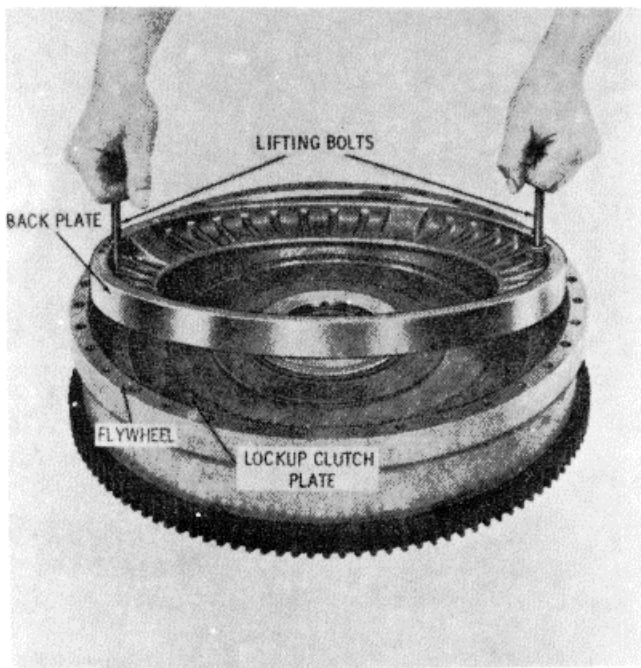

Figure 15-47. Removing Lockup Clutch Backplate
4. Remove the hook-type seal ring from the turbine shaft. Install two lifting bolts (Figure 15-47) into the lockup clutch backplate and remove the plate from the flywheel. If present, remove two anchor keys. Remove the lockup clutch plate.